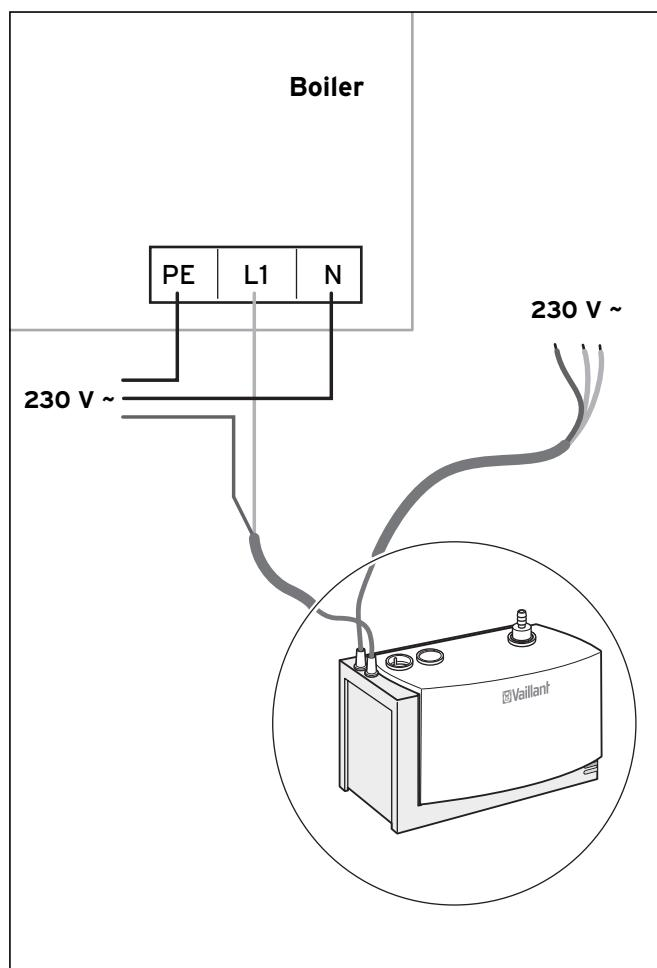

Fig. 6.4 Connecting the overflow safety switch, connection type C
- Connect with the mains voltage connection on the boiler as shown in Fig. 6.4.